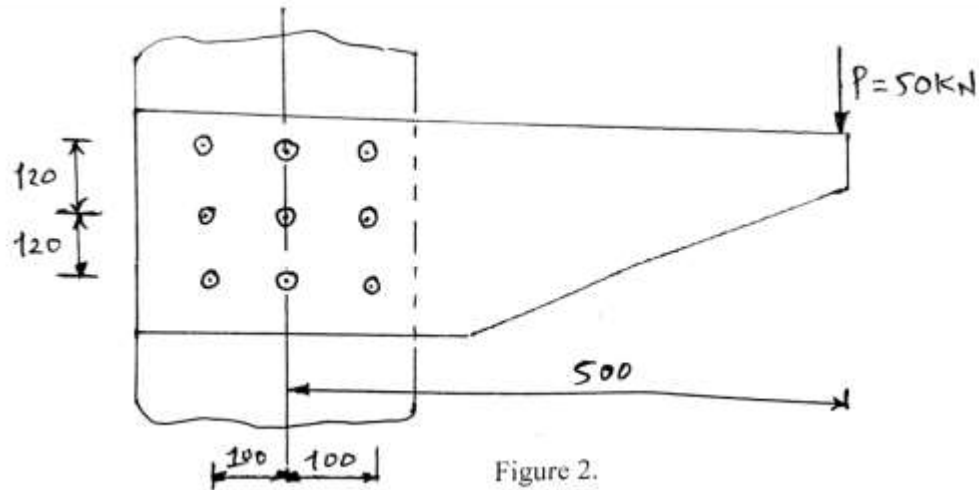

Figure 2.
- Q.8 A bracket as shown in figure 2 is to carry a load of 50 KN. Determine the size of the rivet if the shear stress is not to exceed 45 Mpa. Assume all rivets of the same size 13